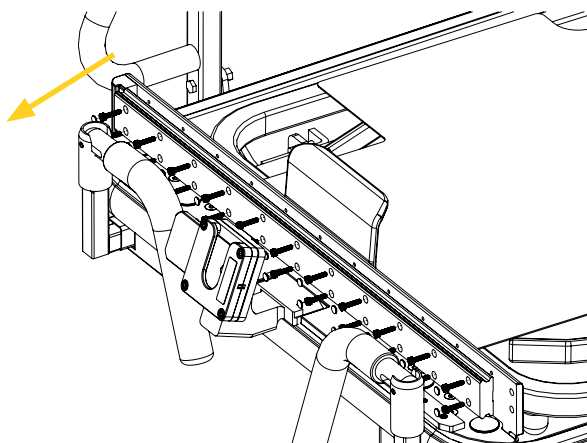

Figure 80: Removing the current rail plate
6. Remove the twenty-two (22) screw caps manually, then remove the twenty-two (22) screws and the rail plate using a 3 mm hex key (Figure 80). The screw caps, screws and rail plate will **not** be reused. Refer to your established internal protocols and the environmental laws that apply to your jurisdiction for the proper disposal of the parts.